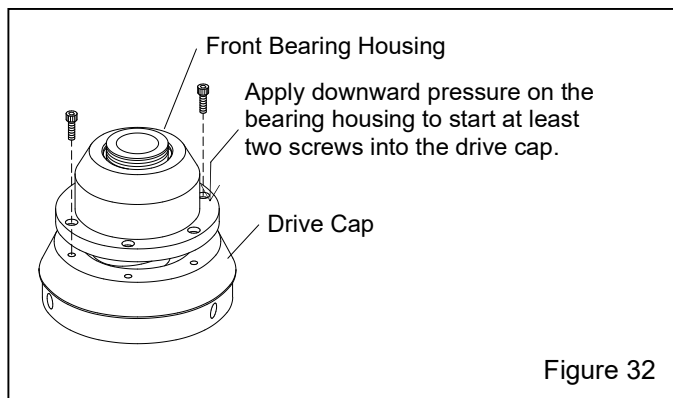

Figure 32
**9.3.7** Refer to Figure 32 and align the screw holes in the bearing housing with those in the drive cap. Apply downward pressure to lower the housing enough to engage the screw threads into the drive cap. Start at least two screws on opposite sides of the housing before releasing downward pressure.